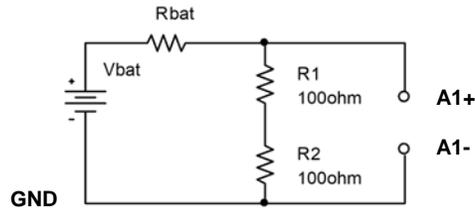

Figure B-5.
- **Now add a load to the battery, as in Figure B-5.** The load is two 100Ω resistors in series. We will discuss why two resistors are used a little later. Set up the circuit so that you can add and remove the load quickly, leaving it disconnected unless you are making a measurement. This just means wire it so that it is easy to pull out and reinstall one end of one resistor. **You should only connect the load to the battery for a short moment (a second or two)** long enough to make the measurement. If you leave the resistors connected, your battery will drain down quickly and will definitely not last a full semester. Record the voltage displayed in the Voltmeter window of the M2K with the resistive load disconnected. **Then connect the resistors, quickly record the new voltage, and quickly disconnect the load.** You may want to repeat this a few times to find the typical change